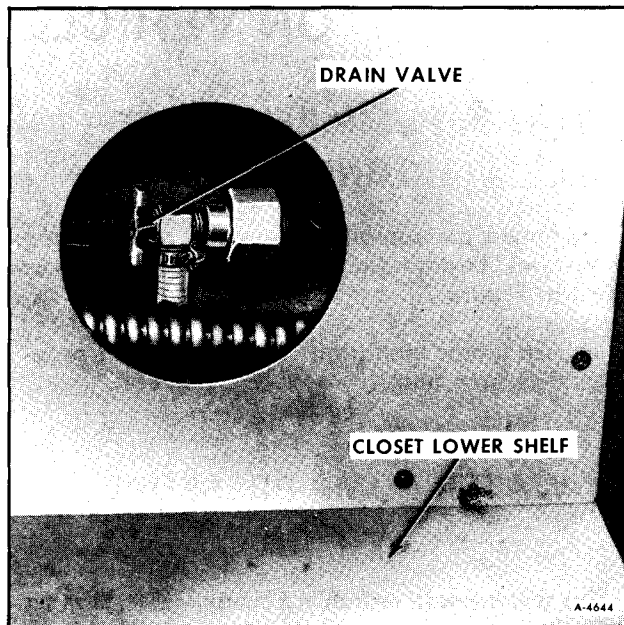
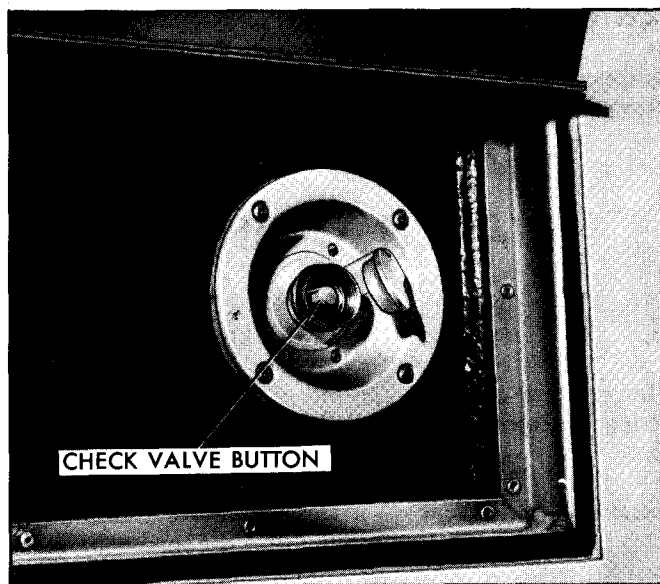

Figure 5—External Water Connection Drain Valve
Figure 6—External Water Connection
13. Remove access cover near lower shelf in closet. Open drain valve (figure 5) for external water connection (inside external utilities compartment), remove hose connection cover. Depress the button on the check valve (figure 6) to allow this portion of plumbing to drain. Install hose connection cover.